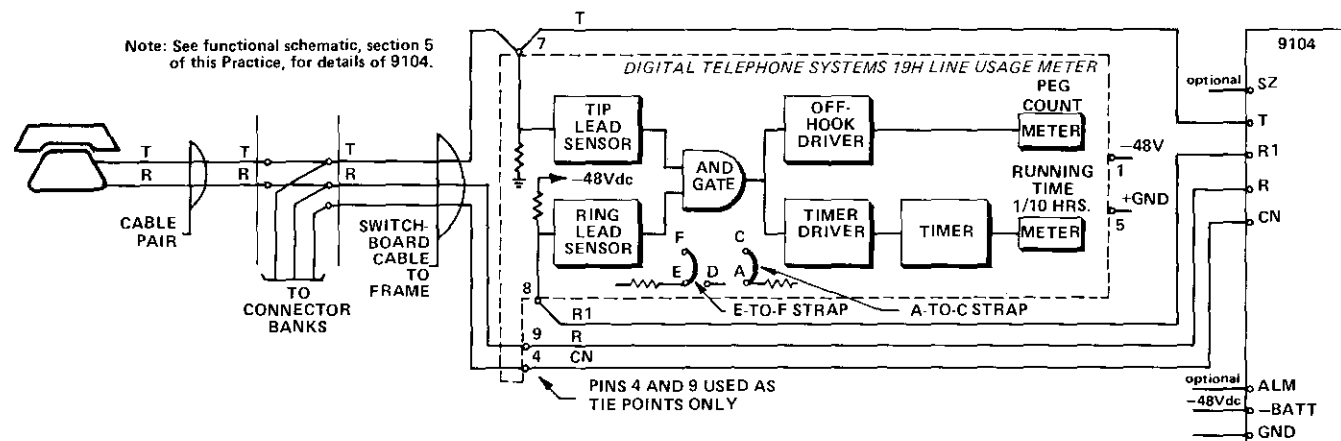

figure 2. Typical circuit arrangement
2.03 The 9104 is designed specifically for use with SxS central offices or other central offices that provide C-lead control, and with Digital Telephone Systems 19H Line Usage Meters (or equivalent). A typical arrangement (for one circuit) is shown in figure 2.